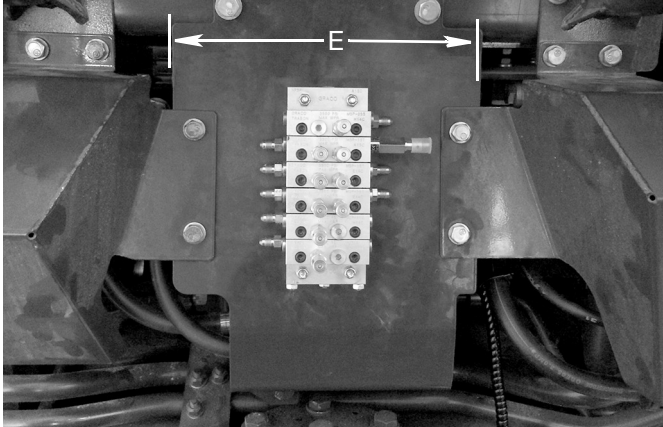
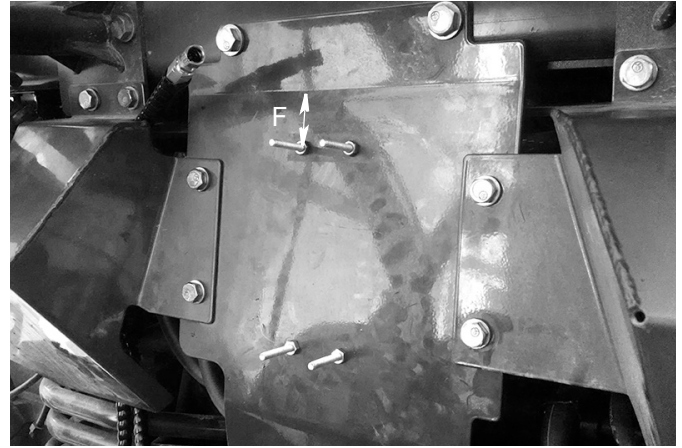

FIG. 23: Center Master Divider Valve on Panel
FIG. 24
2. **HM400-5 Models:** Center the Master Divider Valve (left to right) on the access panel and 4 inches (101.6 mm) (F) from the top of the panel as shown in FIG. 23 and FIG. 24.
as shown in FIG. 24. The nuts will act as spacers to shim the valve out and provide additional hose clearance.